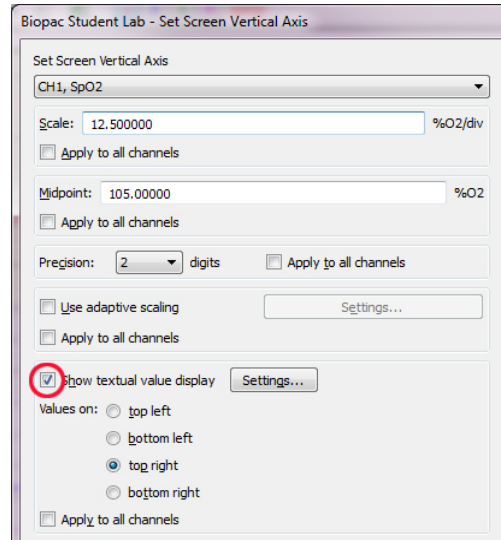

Figure 5
9. It may be useful to enable **textual value display** in order to show the numerical values for SpO₂ during the recording. This option is not available in software prior to BSL 4.0. To enable, position the arrow cursor over the numerical values in the vertical scale region and click the mouse button. The dialog shown in Figure 5 will appear. Check the “**Show textual value display**” box and click “**OK**” to close the dialog.